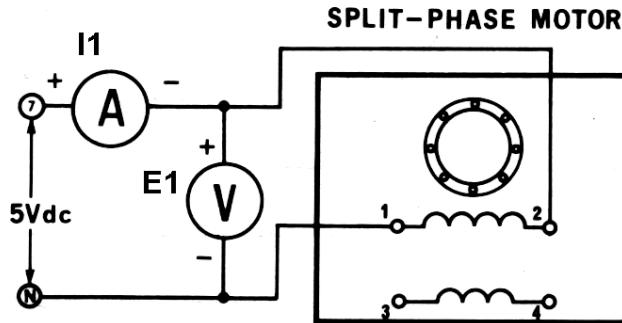

Figure 6-2
- 2) Couple your motor with the dynamometer by a timing belt. Connect the dynamometer to the fixed low voltage AC source by the grey cable. Using thin red wires, connect the “torque” and “speed” outputs of the dynamometer to the “T” and “N” terminals of the DAI; connect “ground” terminals of dynamometer (“4”) and DAI. Set the “MODE” switch of the dynamometer to the “DYN” position and the dynamometer load control switch to the “MAN” position. Set the dynamometer control knob to the utmost counter-clockwise position for the minimum load. Connect the circuit as indicated in Figure 6-2.